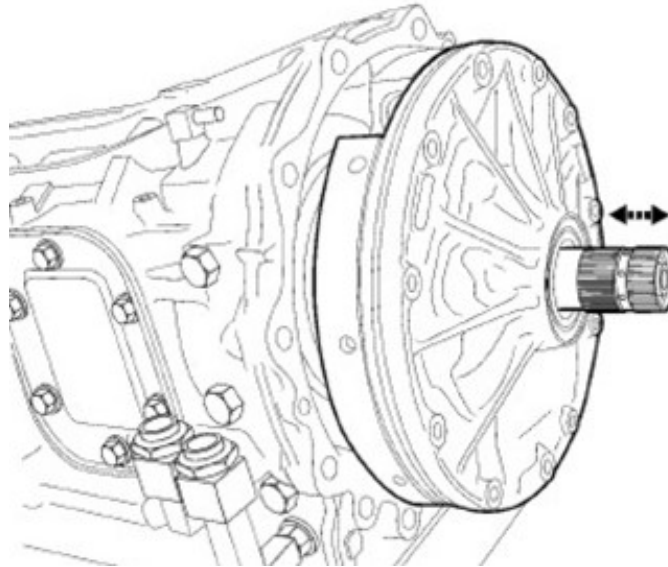

Fig. 13
24. Install the oil pump with a **NEW** gasket onto the transmission case Fig. 13.